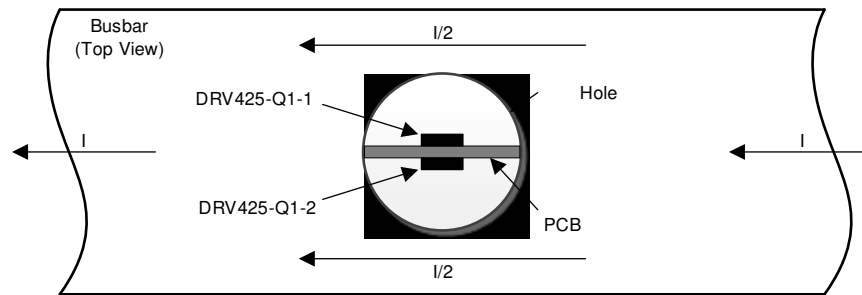
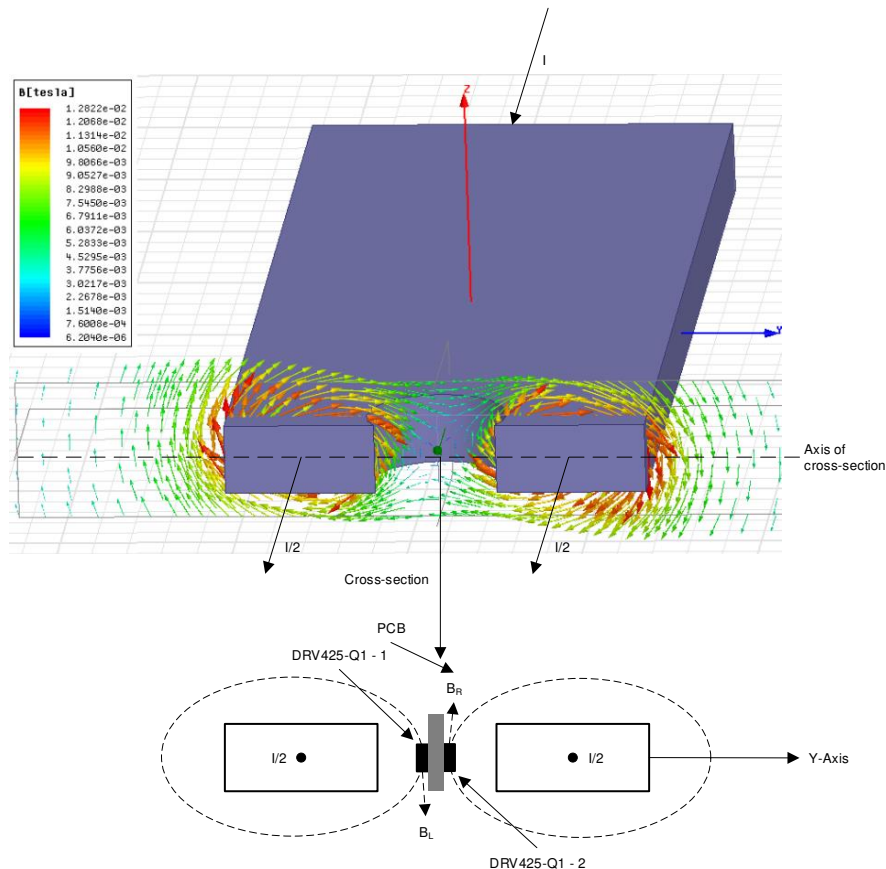

Figure 71. Current Sensing in Busbars
Figure 72. Magnetic Field Distribution Inside a Busbar Hole
Figure 71 shows an alternative approach with two DRV425-Q1 devices. If a hole is drilled in the middle of the busbar, the current is split in two equal parts that generate magnetic field gradients with opposite directions inside the hole. These magnetic fields are termed  $B_R$  and  $B_L$  in Figure 72. The opposite fields cancel each other out in the middle of the hole. The high sensitivity and linearity of two DRV425-Q1 devices positioned at the same distance from the middle of the hole allow the small opposite fields to be sensed and the current measured with high-accuracy levels. The differential measurement rejects outside fields that generate a common-mode error that is subtracted at the output.
2. Apply current through the busbar and move the PCB along the y-axis in the busbar hole, as shown in Figure 72. The PCB is in the center of the hole if  $V_{CM} = V_{OFFSET}$ .